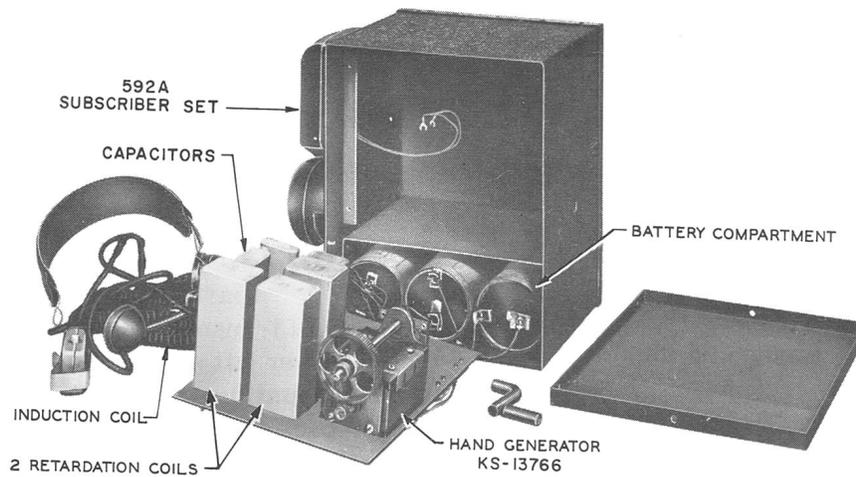

Fig. 2 — F-50682 Telephone Set, Open View
**2.02** Space is provided for three KS-6542-type batteries which are required for operation but are not furnished with this set (see Figs. 2 and 3). A 592A subscriber set is mounted on the outside of the box on the left side, and the F-50721 head telephone set is connected to the set by means of a 15-foot spring cord which is furnished as part of the headset.